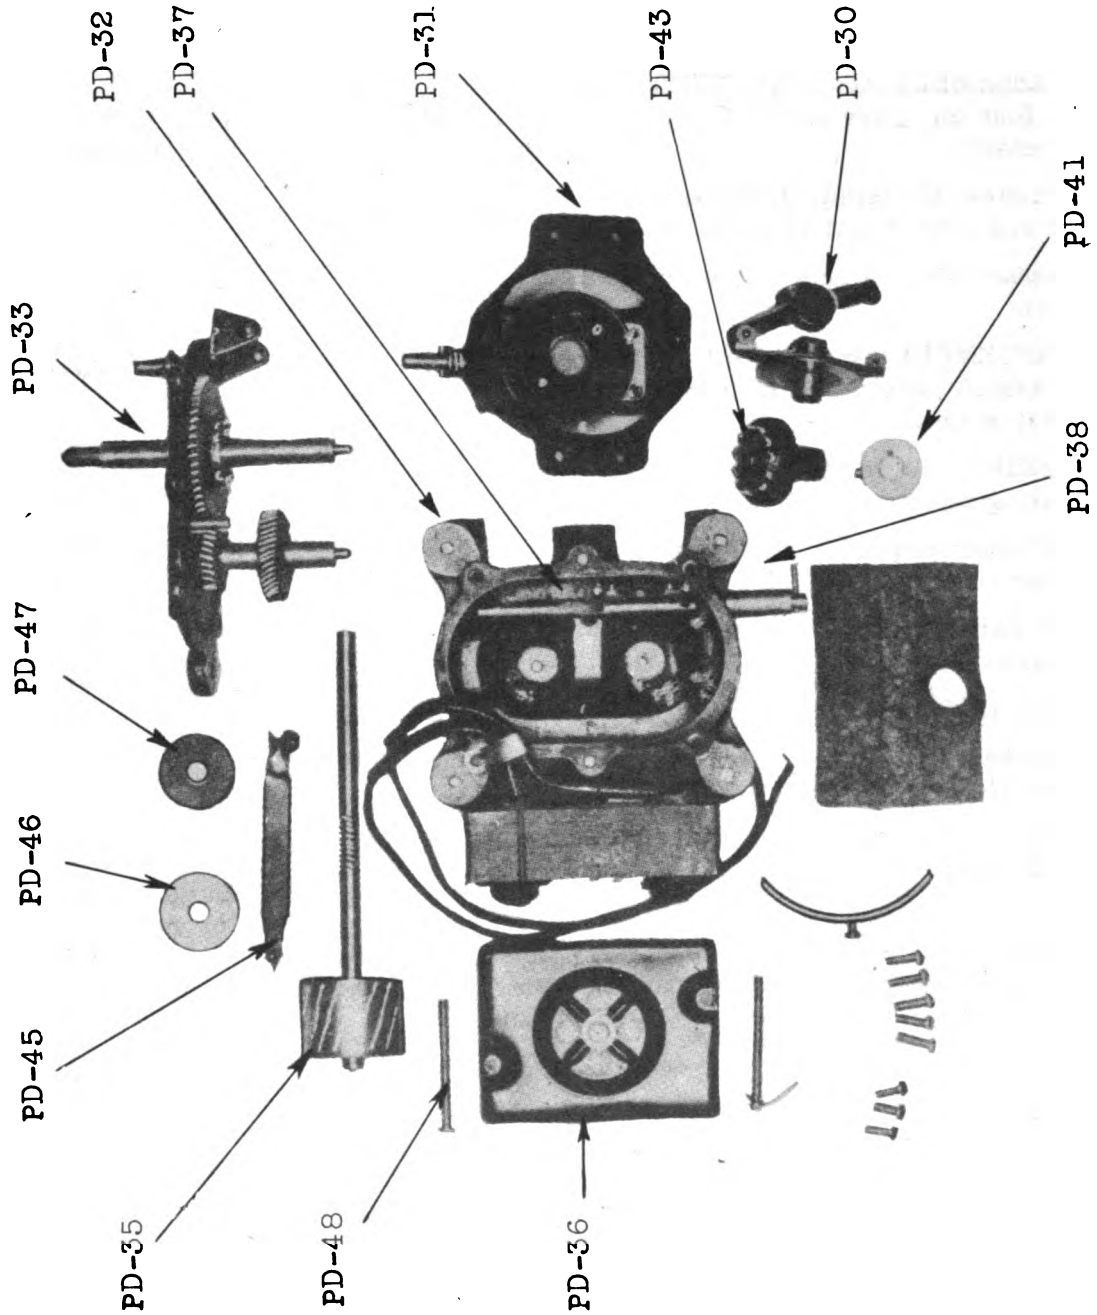

Figure 18. Public Address Set PA-1-F, record player, motor parts.
**d. Further Electrical Checks.** (1) Further check of the amplifier can be made by connecting it to a loudspeaker and a microphone. By talking through the microphone, operating difficulties can be heard through the speaker, and their source determined. Resistors can be measured by an ohmmeter and the value should correspond within 10 percent of the values shown in the maintenance parts list (par. 32). Electrolytic capacitors also can be checked by an ohmmeter for shorts. In setting up Public Address Set PA-1-F, be sure and make all microphone connections tight by locking, and all a-c and speaker connections tight by turning them to the right until locked.
(2) If operation is unsatisfactory when the equipment is set up, check the 6L6G output tubes. At times an output tube will flash over. This causes it to heat up and affects quality of output. Replace the tube if necessary.
(3) If the amplifier when touched, gives a ringing sound through the loudspeaker, it indicates a microphonic tube in the input stages.
(4) If the amplifier is inactive for a period of time, the volume controls may get noisy when turned. At times the dirt spot on the controls causing the scratching sound can be removed by rotating the knob. If this does not help, change the controls.
**29. RECORD PLAYER.** The record player requires a cleaning and oiling once a year. The parts of the record player motor are shown in figure 18.